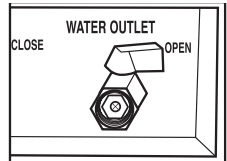

Fig. 2
3. Rinse thoroughly and drain by opening the water outlet, accessible when the door panel is opened. (Fig. 2) You may connect a hose (not supplied) to the water outlet (connection is NPT $\frac{1}{2}$ x 12) or drain direct from the valve. Open the water outlet and drain into a bucket or similar container.